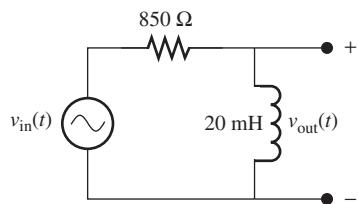

FIGURE P7.49 Circuit for Problem 7.49.
- 7.49** (A) Use PSpice to sketch the Bode plot of the circuit shown in Figure P7.49, given the voltage source $v(t) = 5 \sin(600\pi t + 45^\circ) + 10 \cos(100\pi t)$.